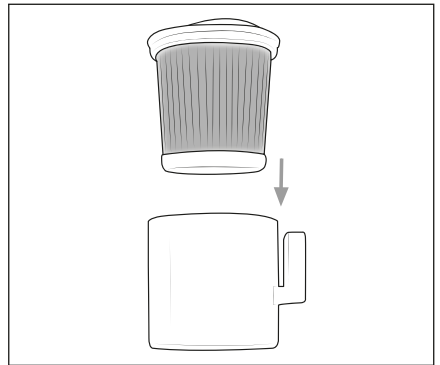

Fig. 20
7) Insert the HEPA filter **4** into the HEPA filter holder **5** (see Fig. 20).